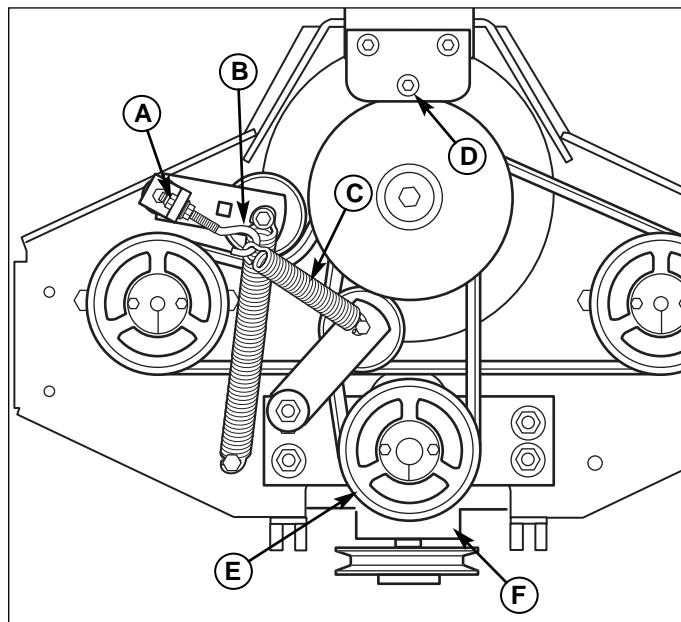

Figure 51. Clutch Belt Removal & Replacement
5. Remove the nylon lock nut (A, Figure 51) to release the belt tension and unhook the clutch belt idler spring (C) from the screw hook (B). Set the screw hook aside.
6. Remove the 5/16" bolt, washer and nut (D) that fasten the rubber pad to the clutch and unscrew the wire ends that connect the clutch to the electrical harness.
7. Pulling the belts over the bottom edge of the gearbox drive pulley (E), remove the clutch belts from the clutch pulley grooves and pull around the idler pulley.